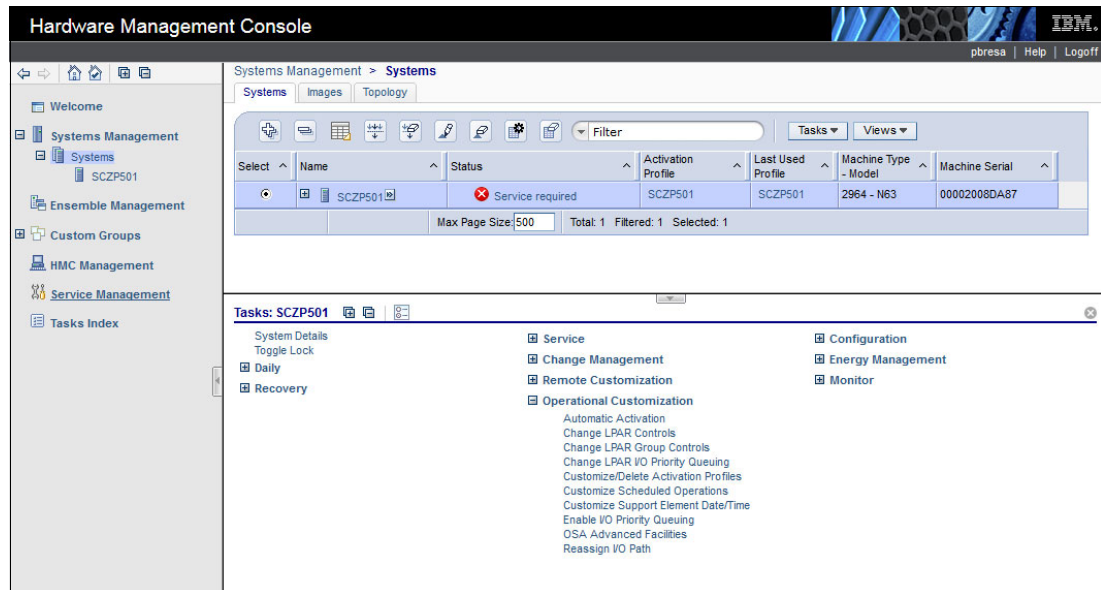

Figure 5-128 HMC - Customize Activation Profiles
- On the Tasks panel, click **Operational Customization** to expand it, and select **Customize/Delete Activation Profiles** (Figure 5-128).